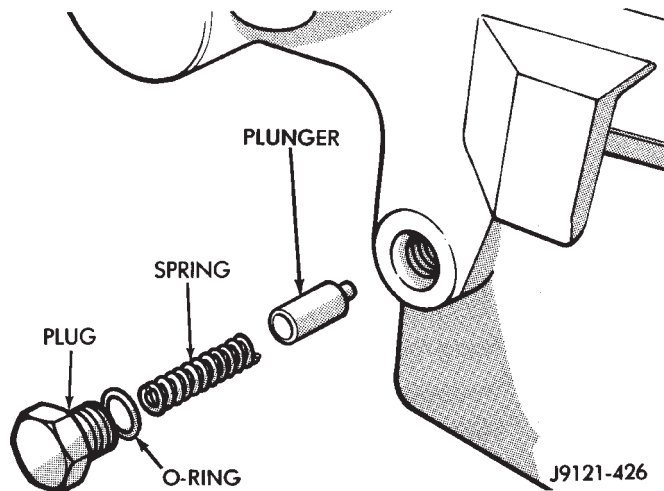

Fig. 25 Detent Component Removal
(1) Remove shift detent plug, spring and pin (Fig. 25).